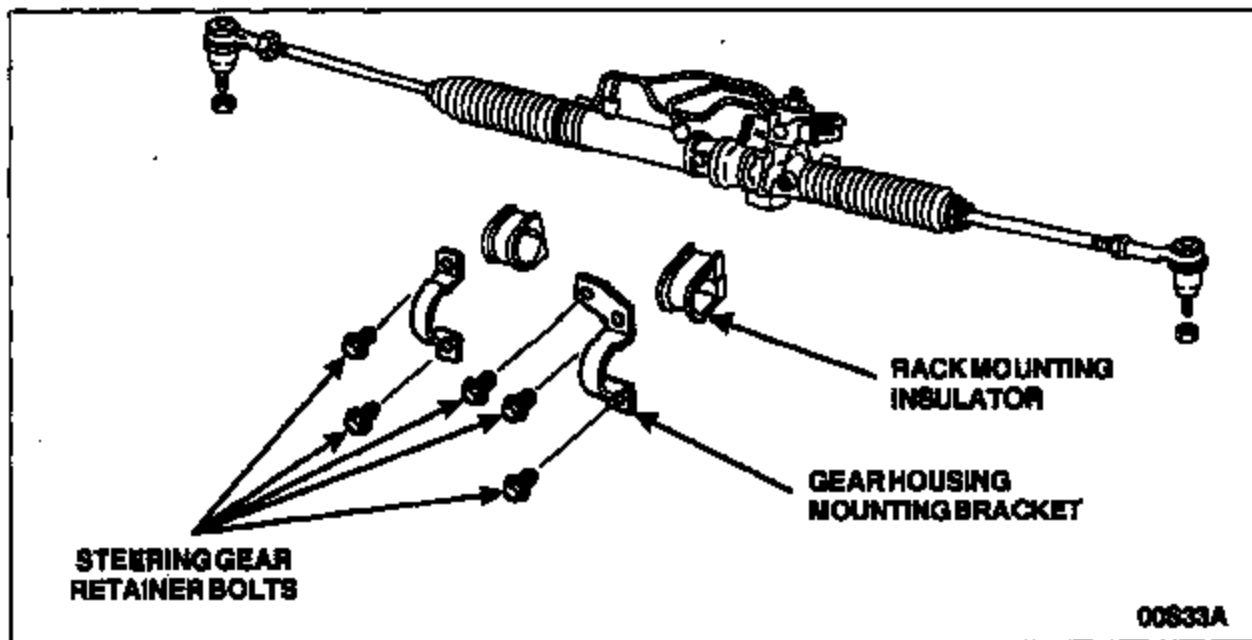

FIGURE 1
2. Check the torque on each of the five (5) steering gear retainer bolts. The torque specification is 84 Nm (62 lb-ft). See Figure 1.